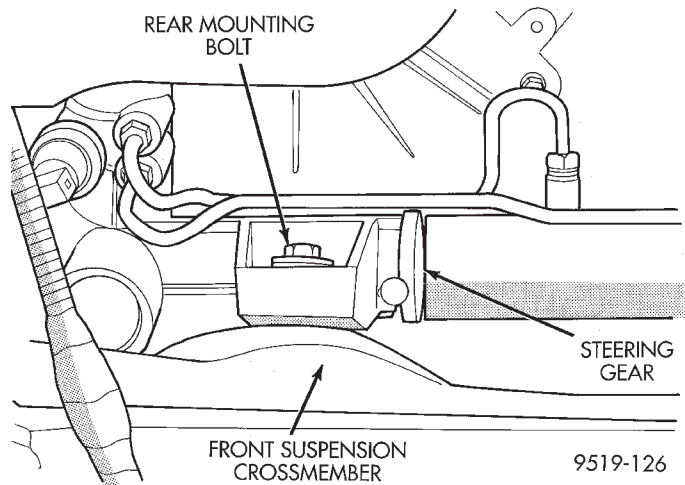
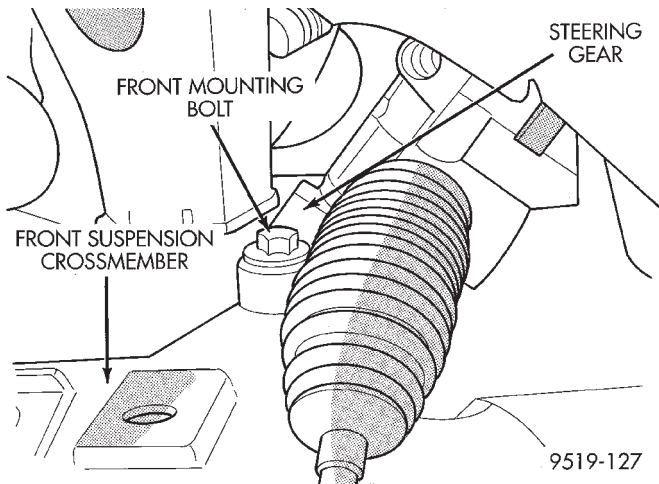
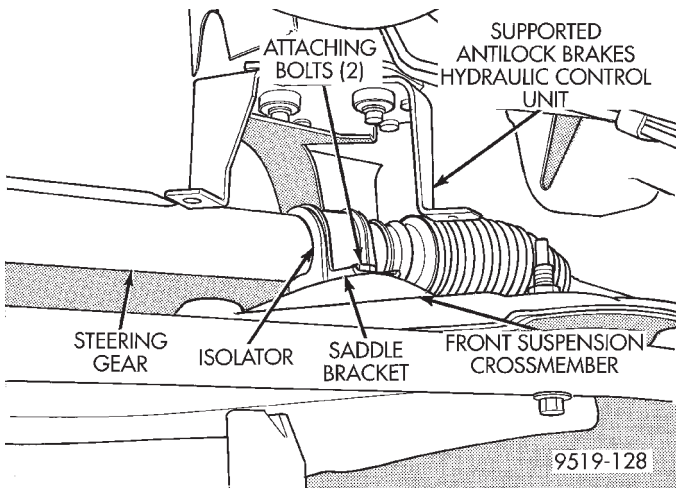

Fig. 17 Steering Gear Rear Mounting Isolator Bolt
Fig. 18 Steering Gear Front Mounting Bolt
Fig. 19 Steering Gear Saddle Bracket Mounting Bolts
(22) Remove the 2 bolts, at the isolators (Fig. 17) and (Fig. 18) attaching the steering gear assembly to front suspension crossmember. Then remove the 2 bolts attaching the steering gear saddle bracket (Fig. 19) to the front suspension crossmember. Remove the steering gear assembly from the front suspension crossmember.
17) and (Fig. 18) into the mounting isolators. Then install the 2 short bolts (Fig. 19) into the saddle bracket. Tighten the 4 steering gear mounting bolts to a torque of 68 N·m (50 ft. lbs.).